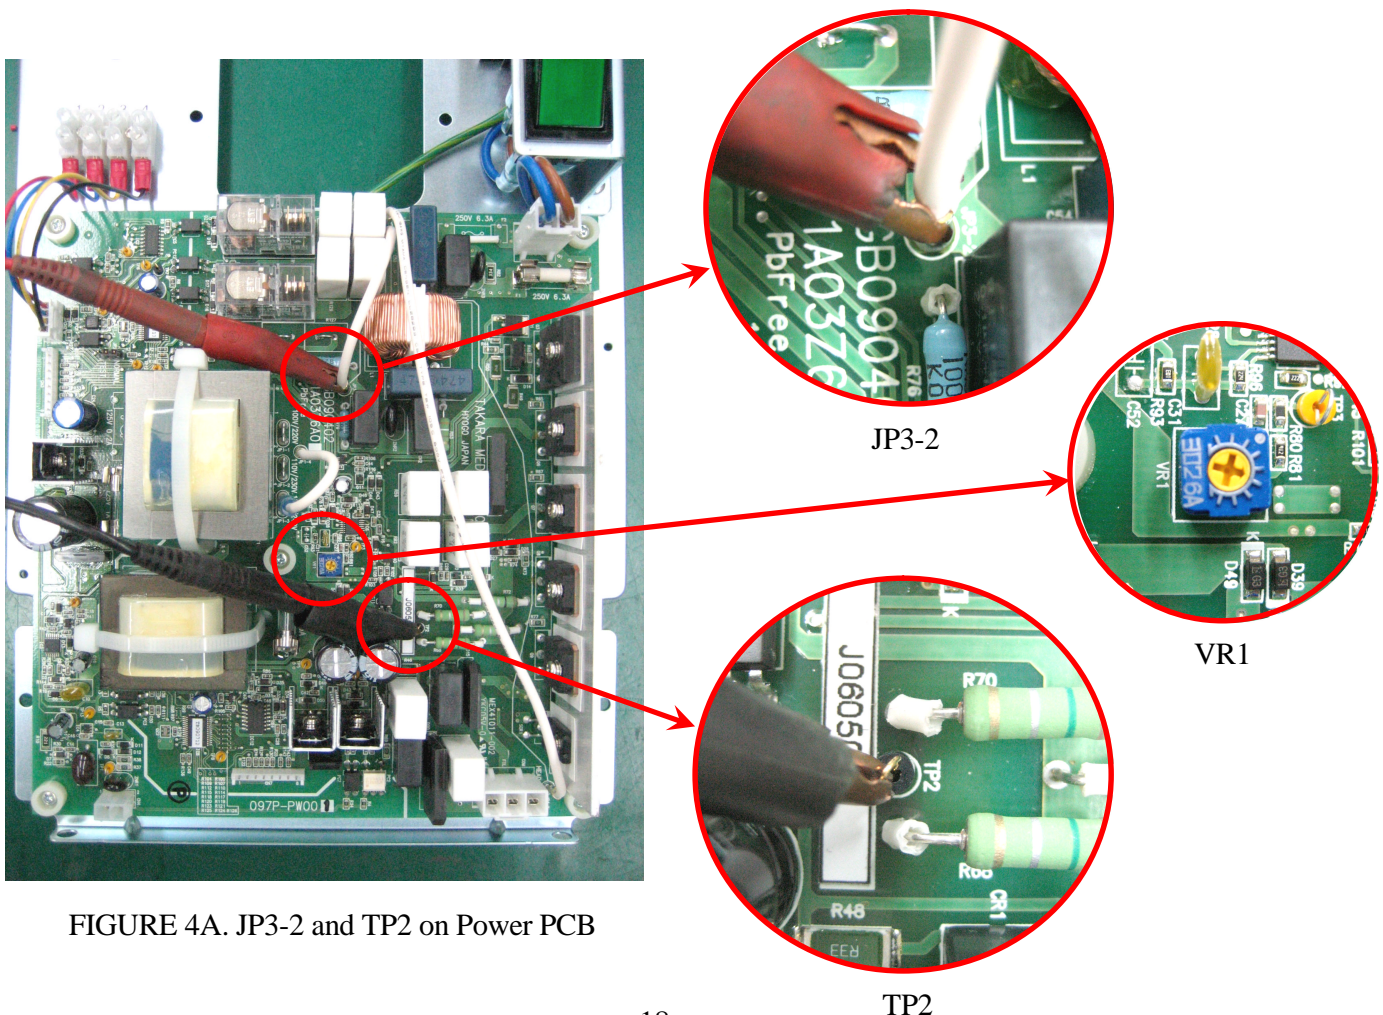

FIGURE 4A. JP3-2 and TP2 on Power PCB
3. Open the front panel of the main controller and place one lead of multimeter to JP3-2 on the power PCB and other lead of multimeter to "TP2" a wire ring test terminal on the power PCB. (Refer to FIGURE 4A.)